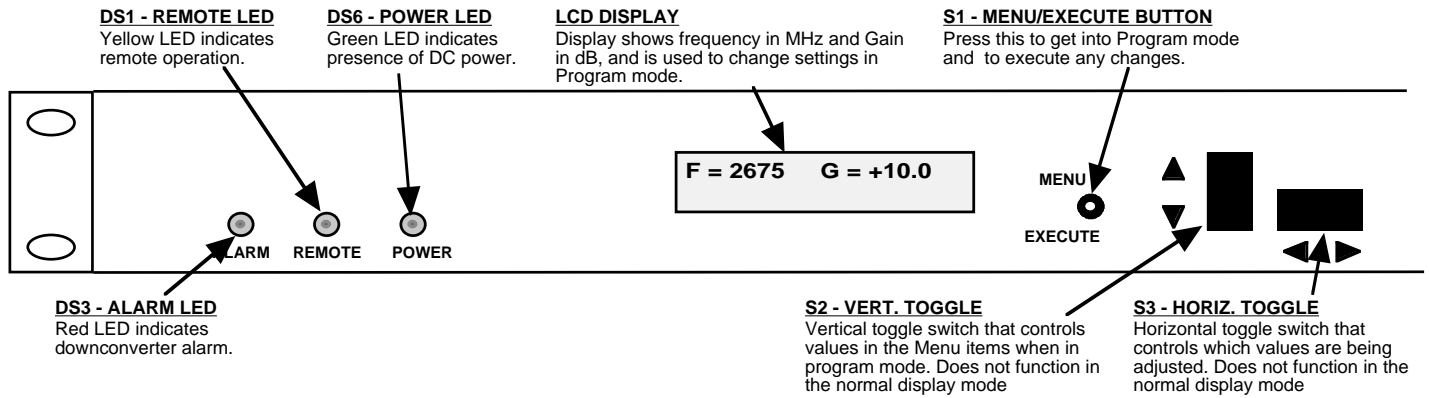

FIGURE 2.3 2016-27 Front Panel Controls and Indicators
6. Be sure DS6 (green, DC Power) is on and DS2 (red, Alarm) is off (Figure 2.3).
7. **AC Fuse** - The fuse is a 5 mm X 20 mm, 2 amp slow blow (Type T) and is inserted in the far slot in the drawer below the AC input as shown in Figure 2.3. There is a spare fuse in the near slot. If a fuse continues to open, the power supply is most likely defective.